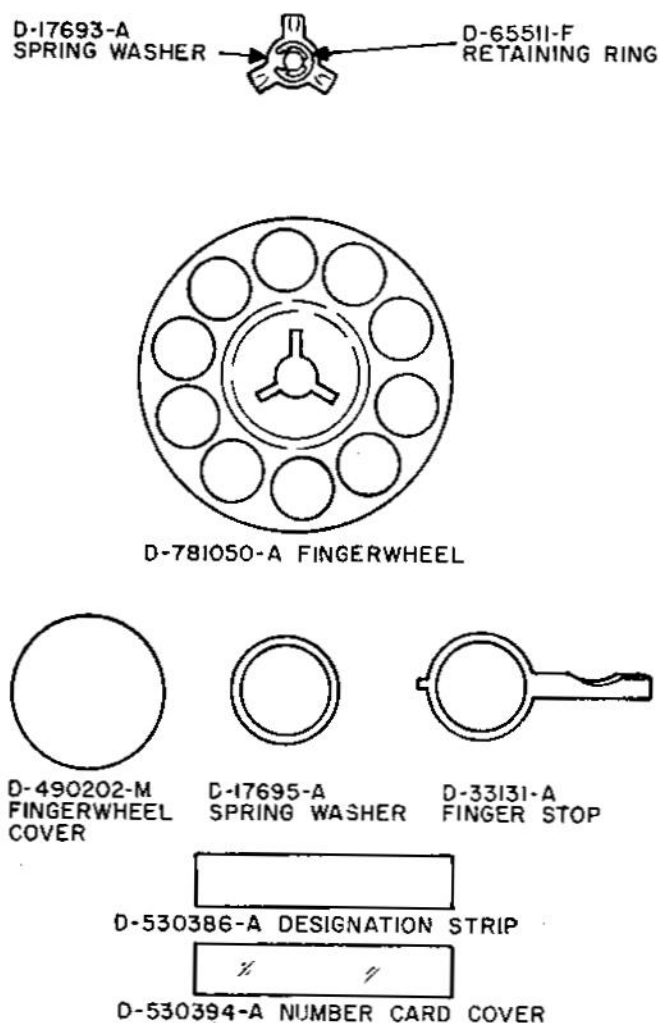

Figure 4. GTE AE D-781050-A Polycarbonate Fingerwheel and Assembly.
3.04 The GTE AE D-781050-A is a polycarbonate fingerwheel used on the miniature dial (Type 154A). Once the white fingerwheel cover is removed and the fingerwheel has been disengaged, the spring washer and finger stop is removable. Refer to Figure 4 for all the associated parts.
number card cover is shown in Figure 4 with the other fingerwheel parts.